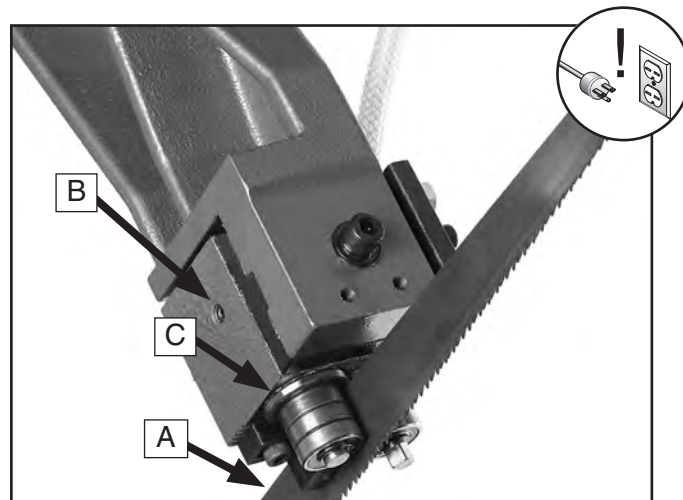

Figure 43. Blade guide adjustments.
The blade guide bearings are adjusted at the factory but due to shipping and storage may need adjustment. Use **Figures 43 & 44** to guide you through the following steps.
5. The back of the blade (A) in **Figure 43** should make light contact with the backing bearing (C).
—If it does not, loosen the set screw (B) shown in **Figure 43**, and move the bearing (C) up or down until it lightly touches the back of the blade.